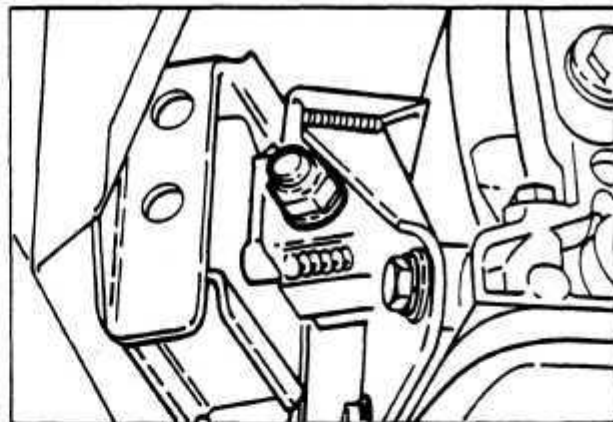

Fig. 25 TRANSMISSION MOUNT REPLACEMENT
3. Remove the nyloc nut and the bolt securing the rubber mount to the transmission metal mount on each side of auto-case (L.H.S. Illustrated). *Fig. 25*